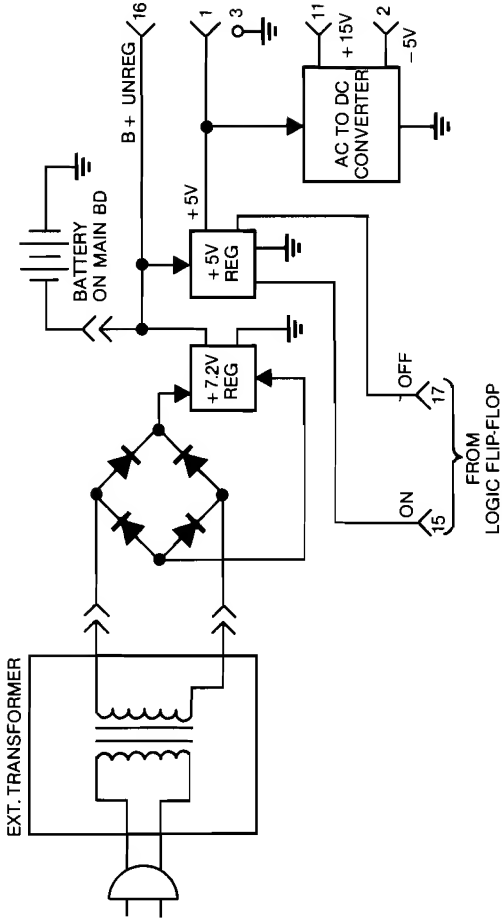

Figure 3-6. Simplified Diagram - Power Supply
- 3-39. Figure 3-6 shows a simplified block diagram of the power supply module. The external transformer supplies AC power to the bridge rectifier. The output of the rectifier is regulated to 7.5 volts to charge the instrument batteries which are capable of operating the instrument for approximately six hours. The battery voltage is then regulated to +5V, permitting the instrument to operate reliably over wide variations of battery voltage. The 5V regulator also supplies the DC-to-DC converter which generates a +15V and a -5V source for other instrument circuits.